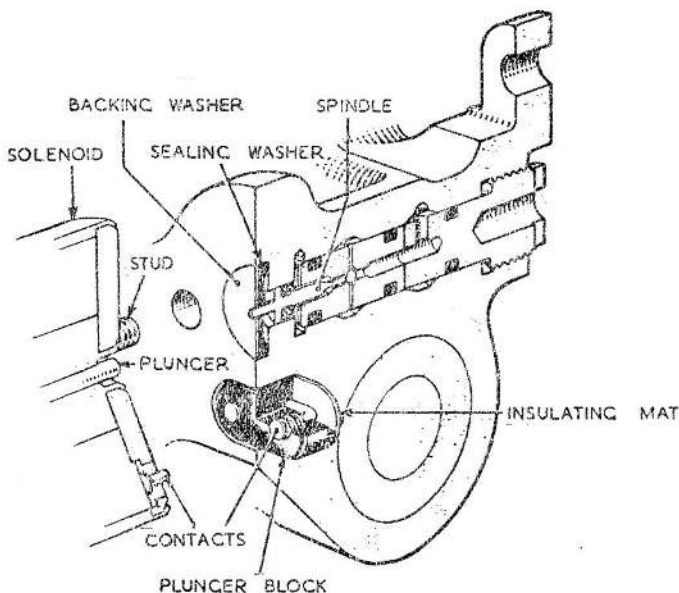

Fig. 2. Sectional view showing method of attachment
8. Sleeve nuts pass through the body of the unit on which the solenoid is mounted and engage with the attachment studs. The contact pins mate with contacts in plunger blocks (*fig. 2*) on the valve body, and these contacts are electrically connected with a plug also mounted on the valve body.